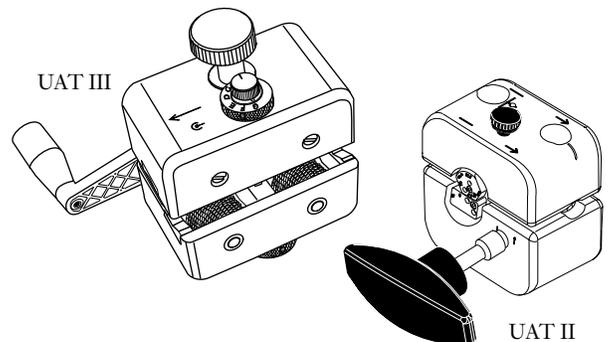

Figure 39
7.25 Corning Cable Systems Universal Access Tool II and III are designed to access the fibers of single-tube cables in a mid-span location where slack is present (see Figure 39).